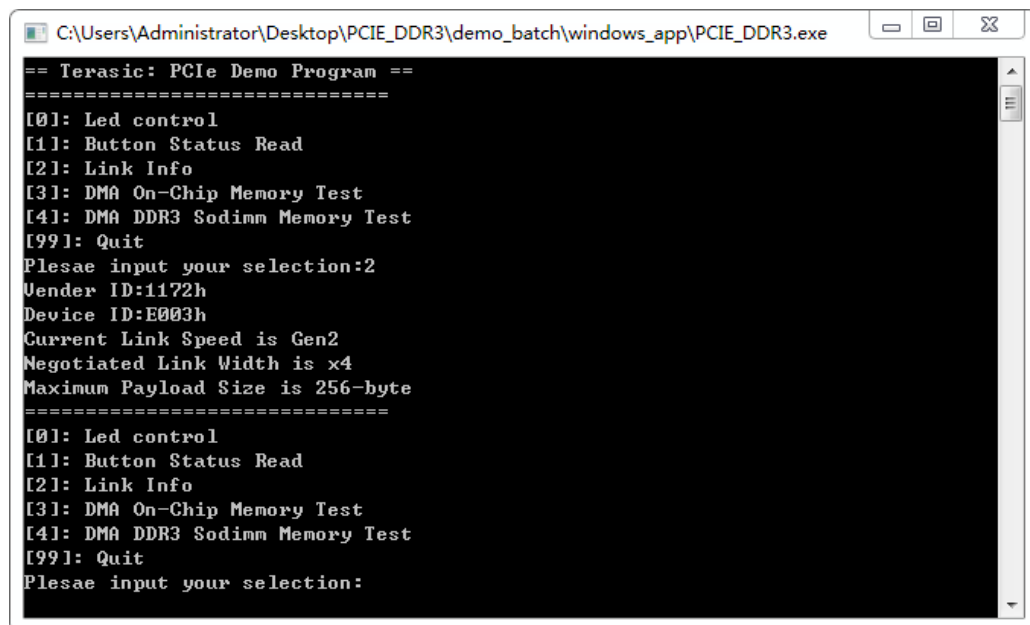

Figure 7-18 Screenshot of Link Info
8. Type 2 followed by the ENTER key to select Link Info item. The PICe link information will be shown as in **Figure 7-18**. Gen2 link speed and x4 link width are expected.